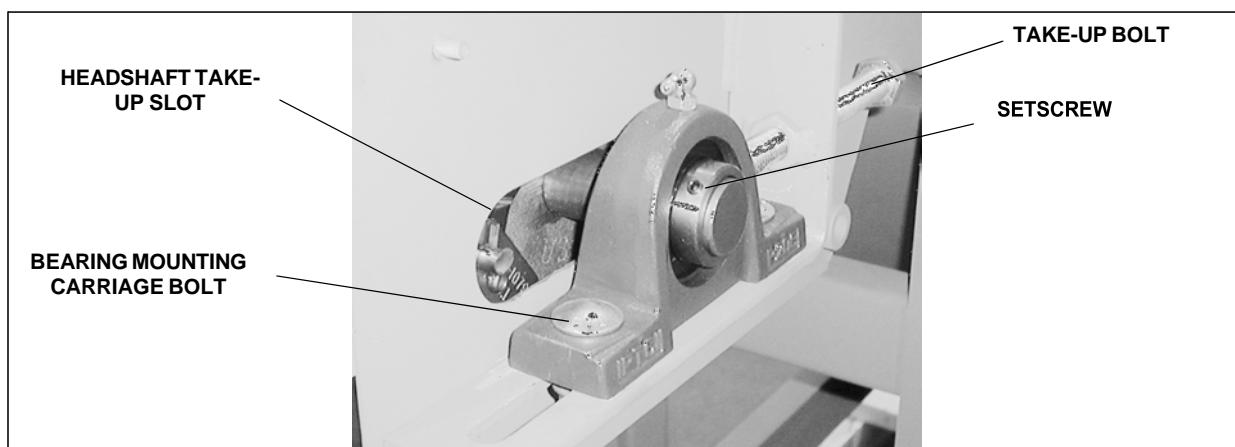

Figure 6. Headshaft Take-Up Slot and Flange Bearing
- Loosen the setscrews on the flange bearing or pillow block bearing so that the headshaft can be moved laterally. (See Figure 6.)
E. If the headshaft has lateral movement in the bearings: Check the setscrews and the headshaft bearing mounting bolts for tightness (Figure 6). If either is loose, proceed as follows:
1. Carefully jog the conveyor until an axle is accessible through the take-up slots, Figures 6 and 9.